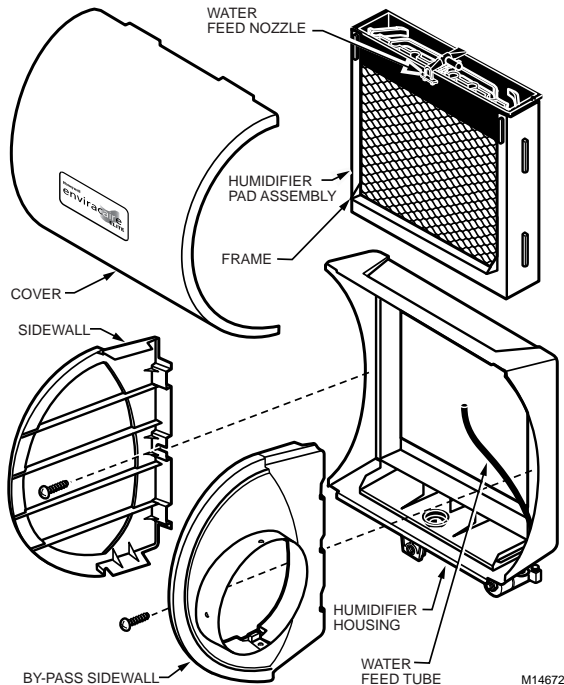

Fig. 5. Location of humidifier parts.
2. Remove the humidifier cover. See Fig. 5.